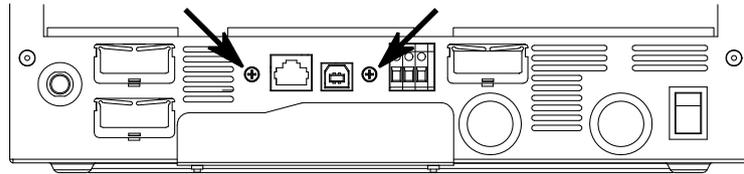

Figure 3: Screw location of communication card
3. Remove the communication board by removing the two screws on the bottom of the inverter as shown in Fig. 3, and then sliding out the communication board toward the top. These screws will be required later.